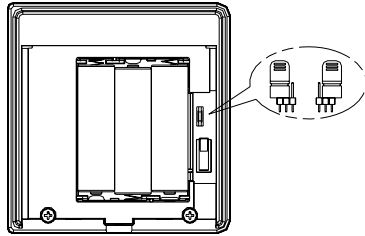

Fig. 11
4. There is one jumper link located above the battery compartment.(Fig .11)